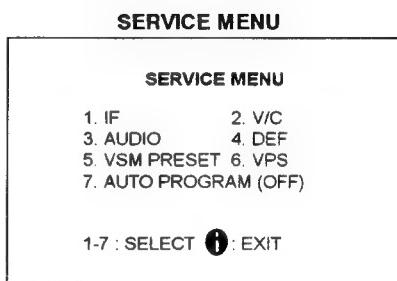
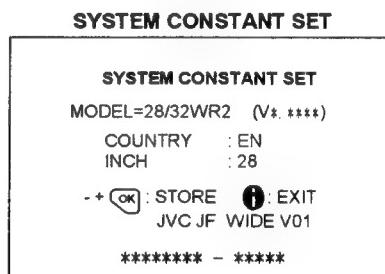

Fig.1
Fig.2
(1) Power off	Switch the power off and unplug the power cord from the outlet.
(2) Replace ICs.	Be sure to use memory ICs written with the initial data values.
(3) Power on	Plug the power cord into the outlet and switch the power on.
(4) Check and set SYSTEM CONSTANT SET:	<ol style="list-style-type: none"> Press the INFORMATION key and the MUTE key of the REMOTE CONTROL UNIT simultaneously. The SERVICE MENU screen of Fig. 1 will be displayed. While the SERVICE MENU is displayed, press the INFORMATION key and MUTE key simultaneously, and the SYSTEM CONSTANT SET screen of Fig. 2 will be displayed. Check the setting values of the SYSTEM CONSTANT SET of Table 1. If the value is different, select the setting item with the FUNCTION UP/DOWN key, and set the correct value with the FUNCTION -/+ key. Press the MENU key to memorize the setting value. Press the INFORMATION key twice, and return to the normal screen.
(5) Setting of receive channels	<p>Set the receive channel. For setting, refer to the OPERATING INSTRUCTIONS.</p>
(6) User settings	<p>Check the user setting values of Table 2, and if setting value is different, set the correct value. For setting, refer to the OPERATING INSTRUCTIONS.</p>
(7) Setting of SERVICE MENU	<p>Verify the setting items of the SERVICE MENU of Table 3, and reset where necessary. For setting, refer to the SERVICE ADJUSTMENTS.</p>